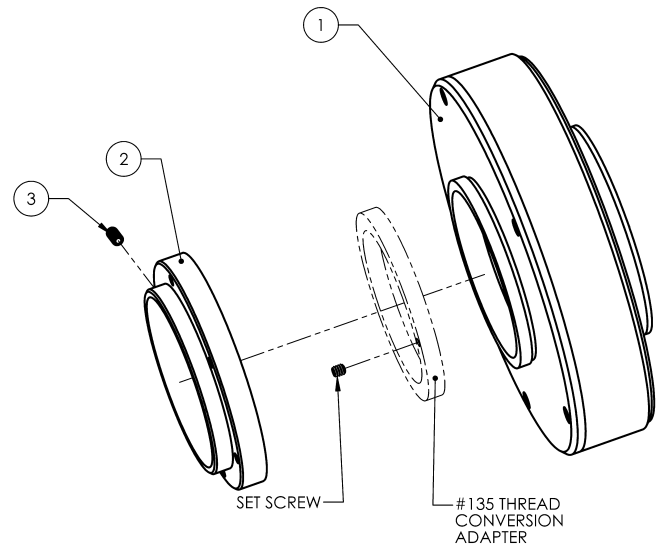

Figure 1
- If mount is shipped attached to the shutter, loosen set screw 3, un-screw the #128 COOKE adapter from the shutter housing(with #17 Front "F" mount adapter. Refer #17 mount assembly manual) rear side thread. See Figure 1, shown is a CS45 shutter housing.